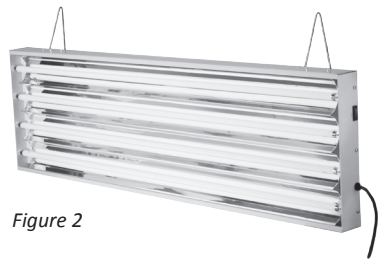

Figure 2
- For horizontal hanging, utilize the holes and slots at the corners on each end. See figure 2.